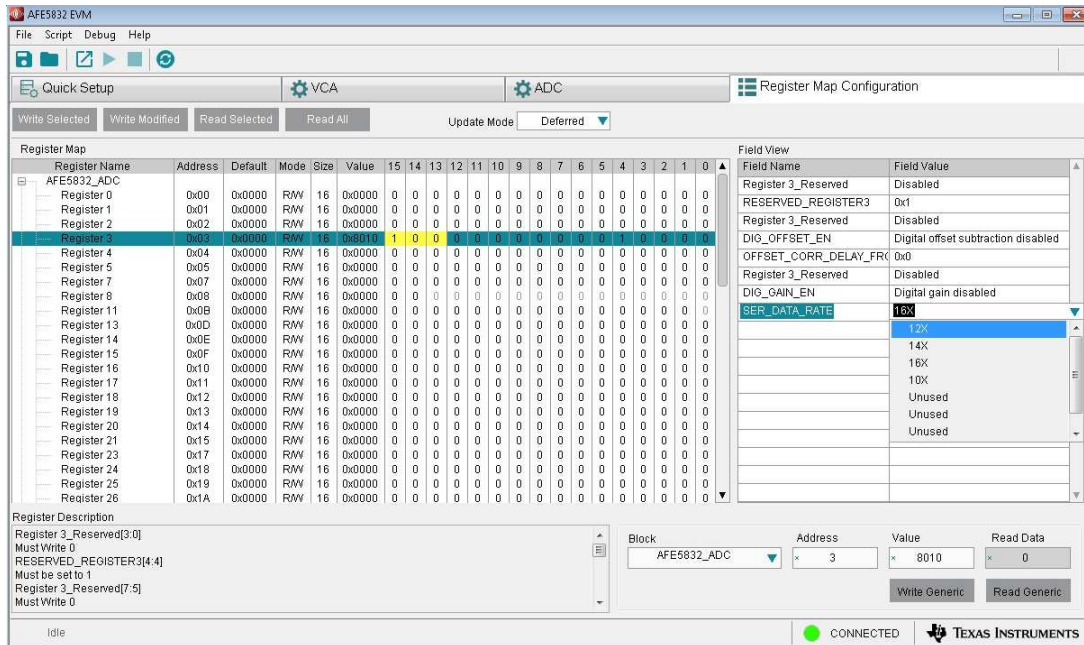

Figure 58. AFE5832: Register Map Configuration: Changing Register Value
1. **GUI Controls:** Hovering over the corresponding *Field Value* to a *Field Name* generates a drop-down menu from which a series of options can be picked to populate that field as Figure 58 shows. The change shows up in the register map. The value for a specific bit can also be changed by clicking on the bit in the register map.